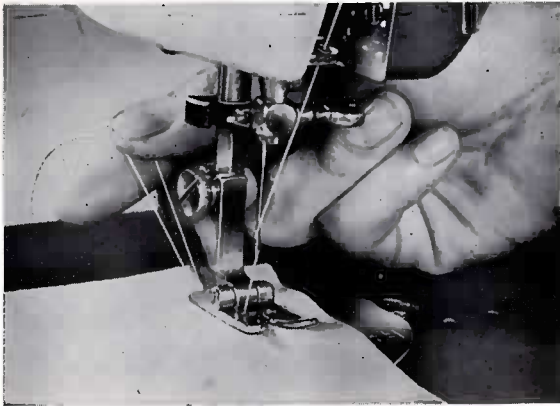

Fig. 14
- 4) Place both ends of the upper and lower thread to the back of the presser foot (Fig. 14).